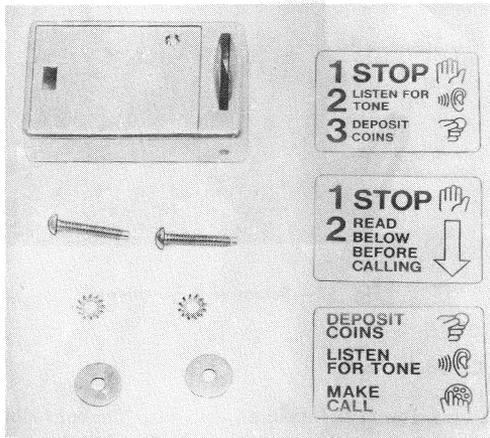

Fig. 55—D-180848 Kit of Parts (Magnetic Coin Stop)
5.37 A D-180848 Kit of Parts (Fig. 55) is available to install on a 70A- or 71A-type coin cover unit. (It is not designed for a panel set).